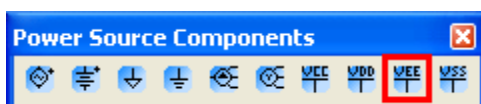

Figure E1-4. Power Source Components Toolbar (Direct Placement)
3. Place the VCC, VEE, and GND components using the power sources toolbar shown in Figure E1-4.